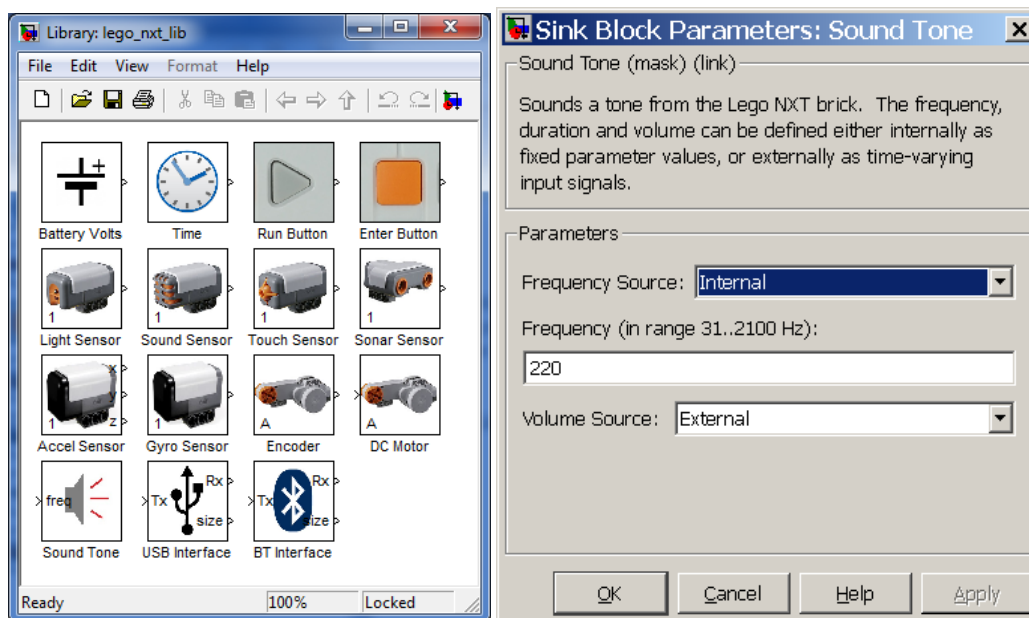

Fig. 5: The VU-LRT Blockset Fig. 6: The Sound Tone block configuration dialog
3. The VU-LRT Blockset, within the Simulink Library browser is shown in Fig.5. Drag and drop the '**Enter Button**' and '**Sound Tone**' blocks into the **my_testSoundTone1.mdl** window. Also drag and drop the '**Gain**' block from the 'Commonly Used Blocks' or 'Math Operations' libraries and double click on the block to set its gain value to 70 (or whatever volume level you choose).